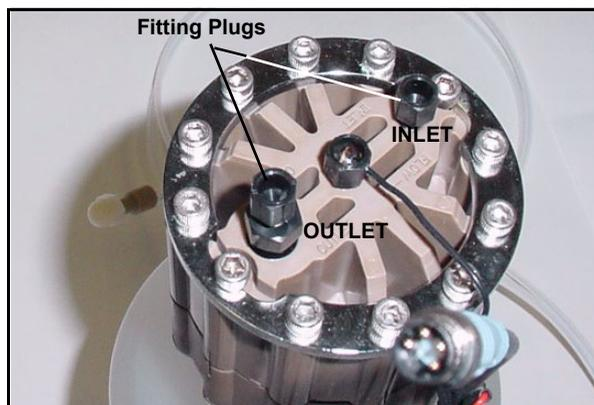

Figure B-33. EGC Fitting Plugs
1. Orient the EGC with the fittings facing up (see Figure B-33) and remove the plugs from the EGC **INLET** and **OUTLET** fittings.